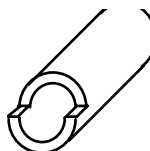

Fig. 1
2. Simply break the tube in two roughly equal pieces by snapping it in the middle as if you were breaking a pencil (i.e., DO NOT use a glass cutting tool). Often this results in the broken ends appearing as shown in Fig. 1 (if not, just try again).